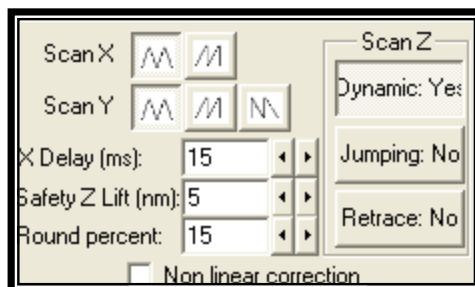

Fig. 4.28
15. In the Scan Options Menu (see Fig. 4.28. This menu is usually already opened, button  ). Select *Dynamic* among the possible measurement modes. In case none of them is selected, the system will work in Contact Mode. The final configuration should be: **Dynamic: Yes**, **Jumping: No** and **Retrace: No**.